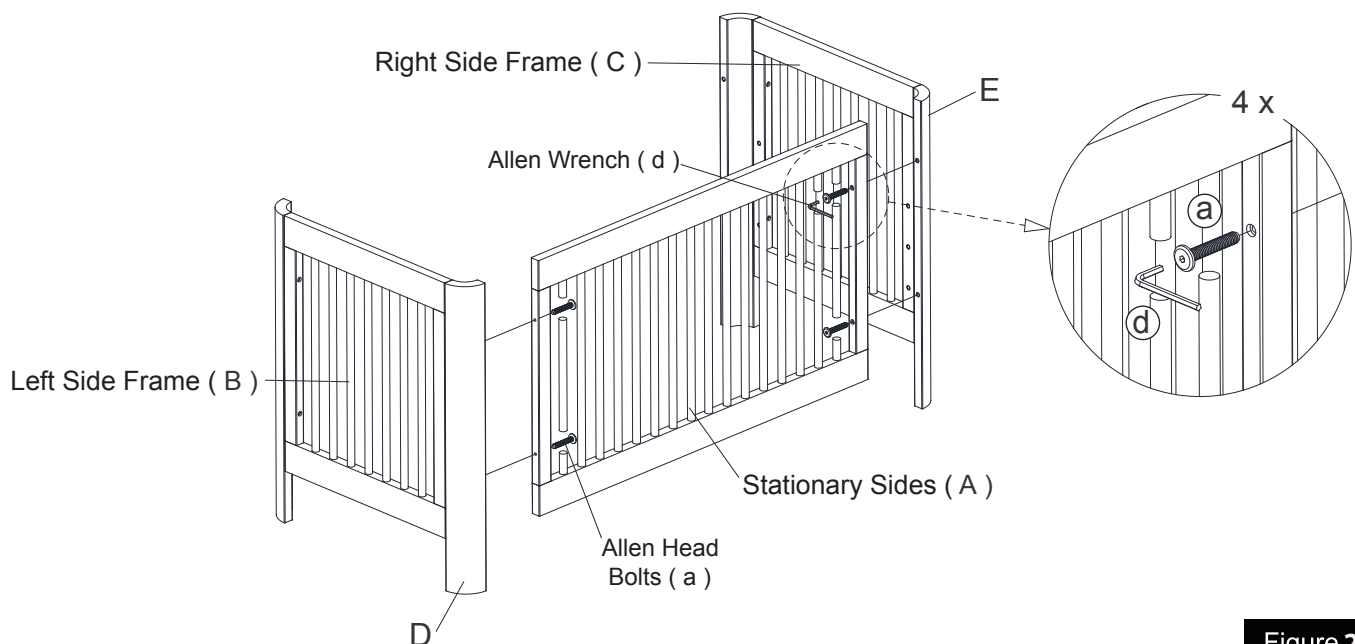

Figure 2:
A. Attach the First Stationary Side (A) to the Crib Side Frame (B) & (C) Using 57mm Allen head bolts (a) . See Figure 2 .